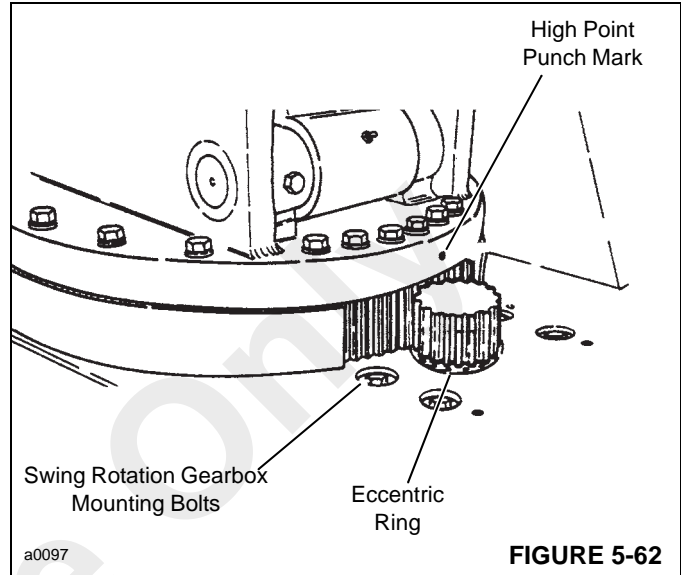

FIGURE 5-62
2. Start the engine and rotate the mast until the high point on the swing gear is in alignment with the pinion. The high point is punch-marked on the edge of the mast base plate (Figure 5-62).